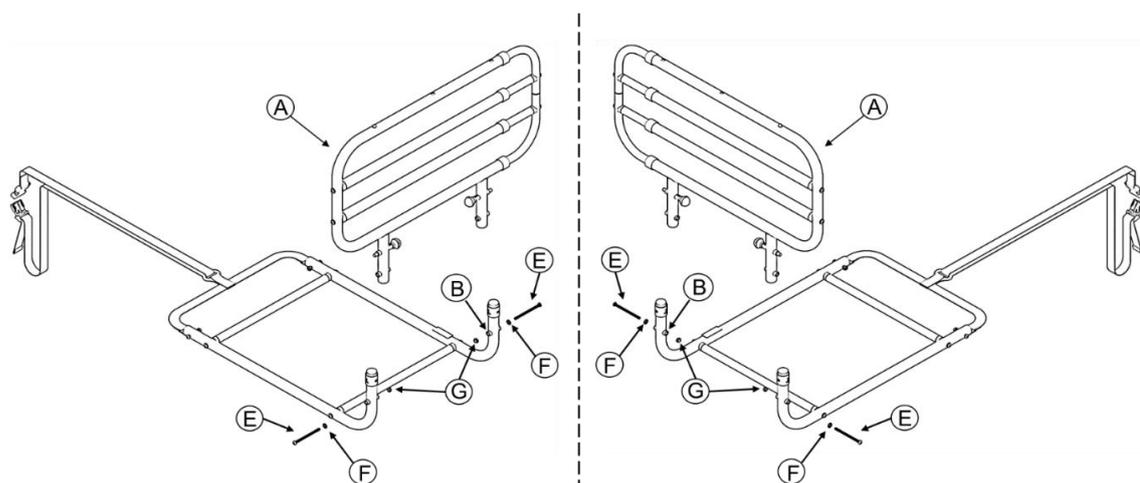

Figure 4
4.3 Using the provided tools (H and J), attach A and B with the fasteners (E, F and G) as shown in FIGURE 4.